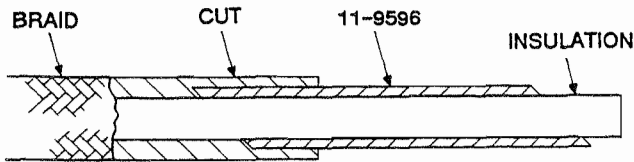

Figure 902
- A. Disassemble harness as necessary to remove damaged lead. Press ferrule (55) from plate (42) using 0.25 inch drift or 11-10386 ferrule seating tool (see Figure 1004). Measure lead length and cut new lead slightly longer.
- B. Insert nylon tube 11-9596 between shielding and insulation to approximately 1 1/2 inch depth. See Figure 902.